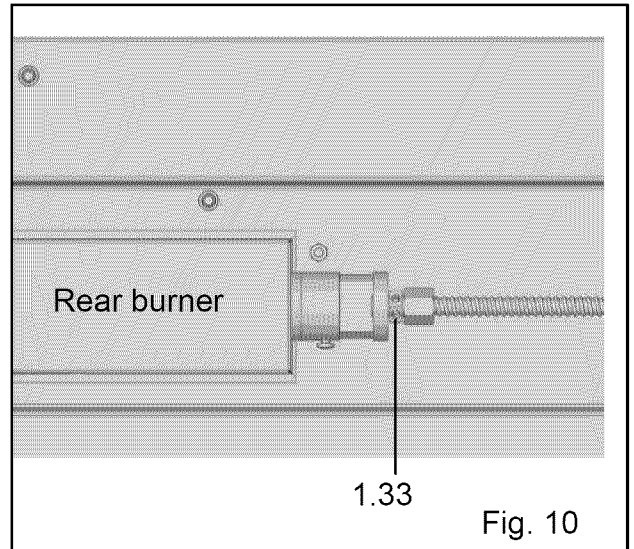

Fig. 10
3. Replace it with the NG orifice, and then tighten. **Make sure you are using the correct orifice, marked "1.33". This is the orifice that came with the grill. (Fig. 10)**